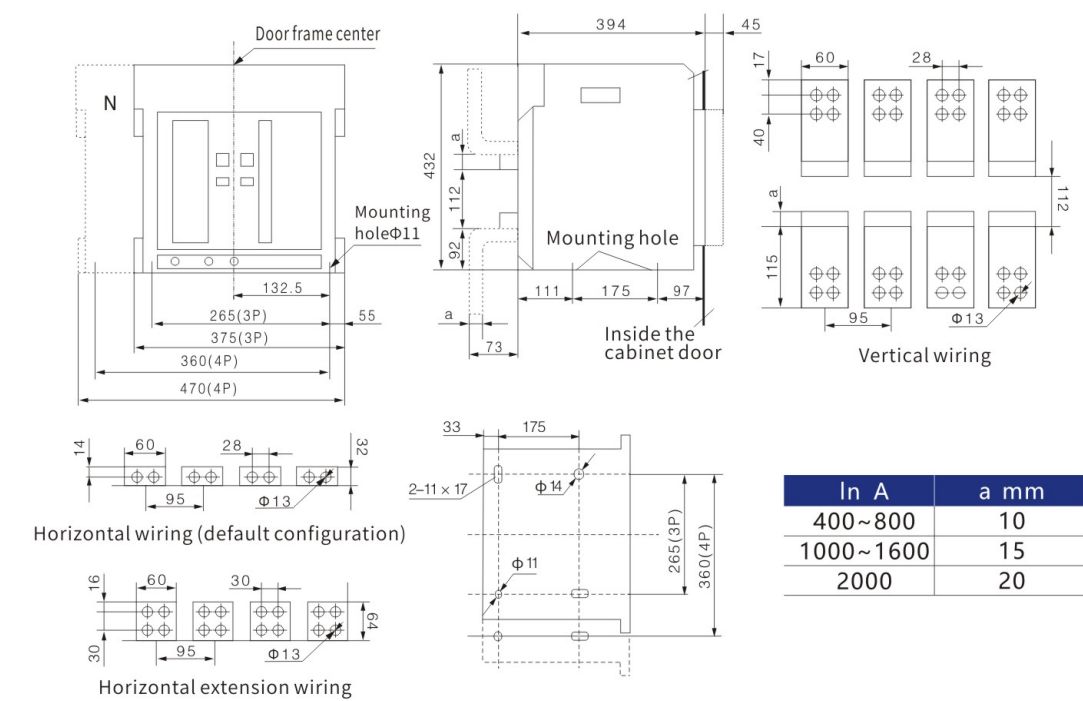

Figure 10 Outline and installation dimension of the draw-out type circuit breaker (W1-2000, 2000/4)
- 2. The outline and installation dimension of the draw-out type circuit breaker is shown in Figure 10, 11, 12, 13, 14, 15 and 16